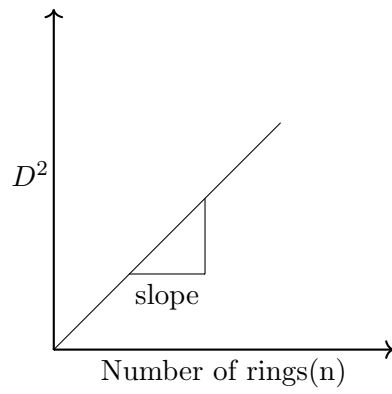

Figure 6.3: Model graph.
8. Draw a graph with order  $n$  on X-axis and  $(\text{diameter})^2$  along Y-axis (Shown in Fig.6.3 Model graph)